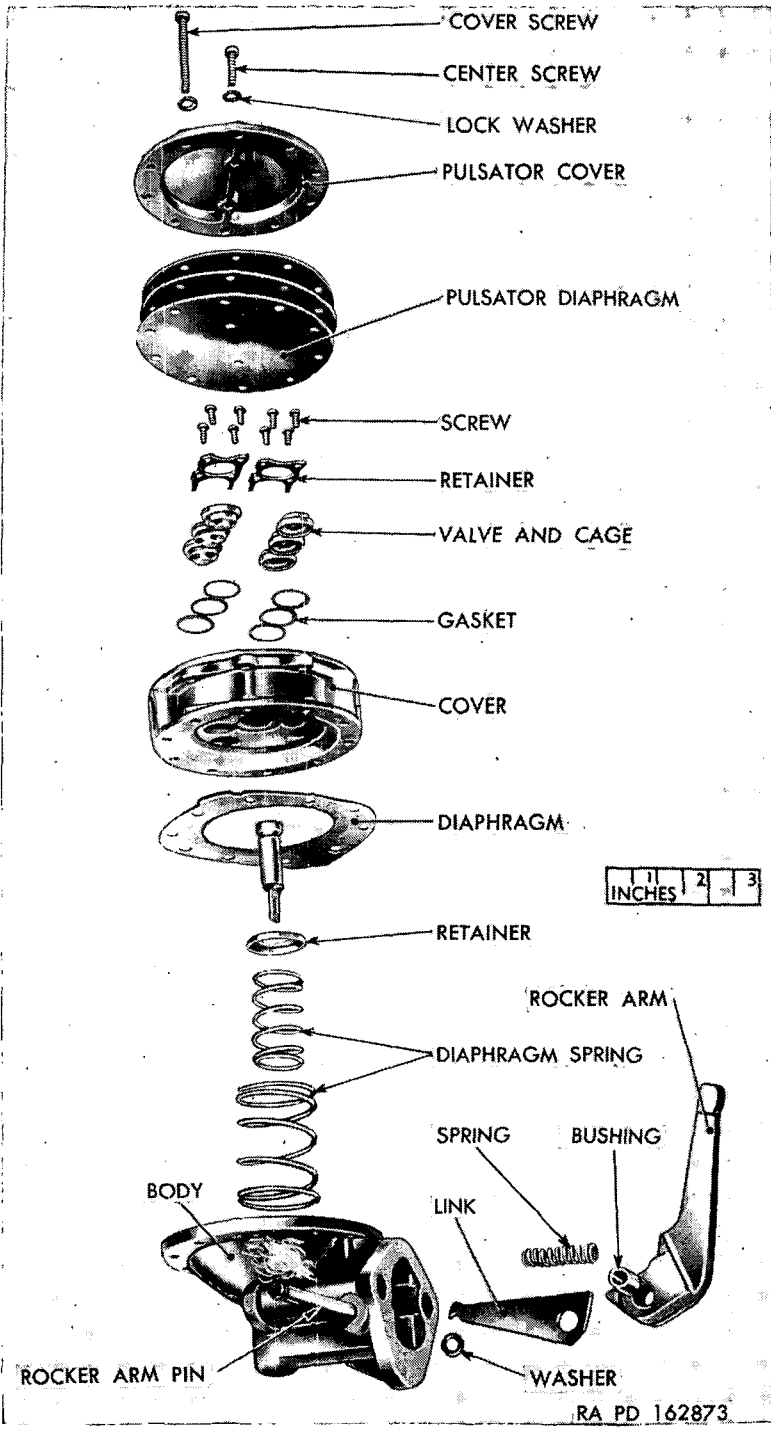

Figure 47. Fuel pump—disassembled (typical series BF and BM construction).
(fig. 47)
a. Assemble Body (fig. 47).
- (1) Place fuel section gasket and seal in recess of body with dished portion of seal down. Press down firmly with flat end of $\frac{7}{8}$ -inch diameter round bar. Retain by staking die cast lip in four places.
- (2) Make an assembly of rocker arm and link with bushing. If used, assemble one spacer on each end of bushing. Place assembly of rocker arm and link in body with link hook down. Aline rocker arm pin bushing hole with hole in body. Position rocker arm spring, and temporarily retain assembly with 4- or 5-inch length of $\frac{1}{8}$ -inch rod (an eightpenny nail can be used). Locate priming lever (part of body assembly) so that milled flat of priming lever shaft contacts the link.
- (3) Soak diaphragm in clean kerosene. Fuel oil may be used, but do not use shellac or sealing compound. Place diaphragm spring (with retainer on top) over body pull rod well and insert diaphragm pull rod through spring and body oil seal. Tip diaphragm assembly so the flat of pull rod will angle slightly away from the hooked end of link. Hold pump upside down so link will fall into engagement with slot in pull rod.
- (4) Remove temporary pin. Aline rocker arm and link bushing hole with hole in body and drive in rocker arm pin. Install washer on small end of rocker arm pin and spread end of pin.